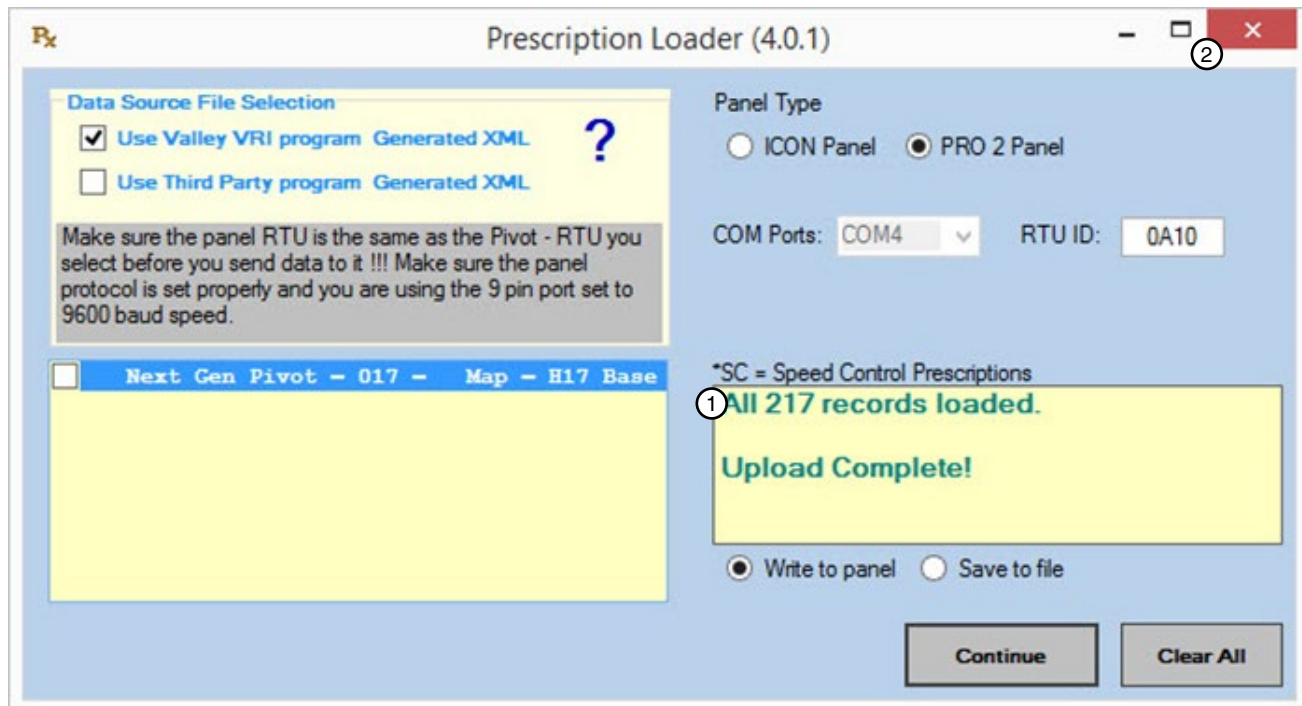

Figure 44-2 1. Data Transmission Status
- The Prescription Loader screen is updated with the status of the data transmission. See Figure 44-2.
2. Click the **Close** button on the Prescription Loader screen to exit the Prescription Loader application. See Figure 44-2.